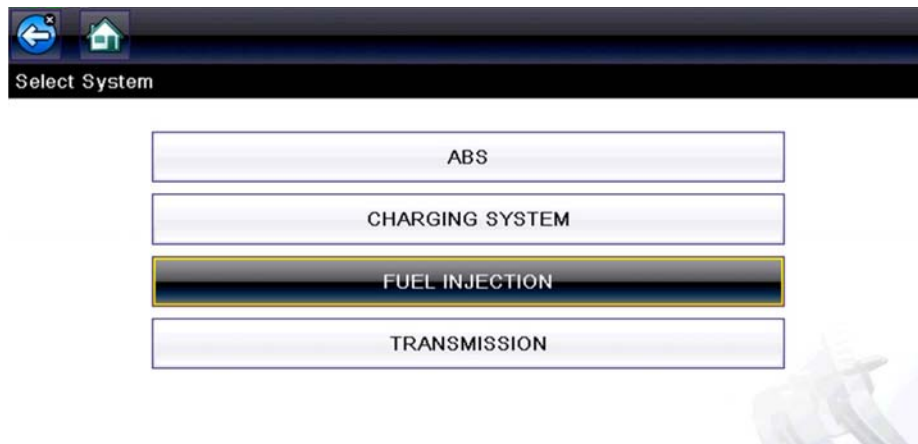

Figure 4-6 Systems Menu
1. Select a system from the list (Figure 4-6).